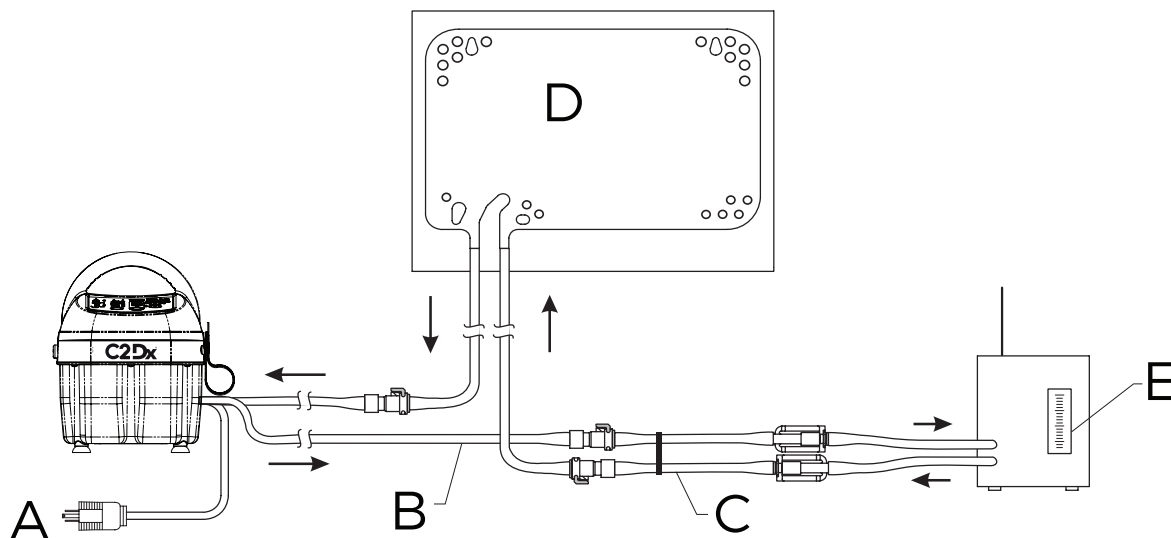

Figure 2: Functional check setup for Colder connector
1. Plug into a properly grounded outlet (A) (Figure 2 above).
2. Fitting and tube closest to the front of the **T/Pump® Temperature Therapy Pump** (B).
3. Attach the Adapter Hose Assembly Kit - TP700C to TPT9 P/N: 77926000 (C).
4. **Mul-T-Pad® Temperature Therapy Pad**, size 18" or 22": lay the pad flat and at the same level as the pump (D).
5. **TPT9**, 7 gph (26.5 lph) minimum. Read at top of the float (E).